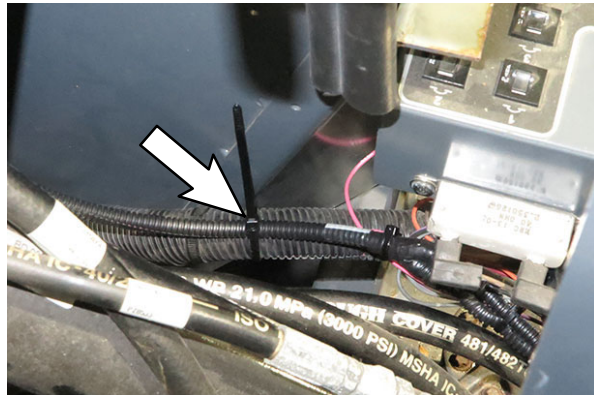

FIG. 22
57. **All Machines:** Use cable ties (16) as necessary to secure the blue spotlight harnesses (6)/(15) to the main wire harness/other nearby harnesses so neither harness can be damaged by moving parts.
Secure the blue spotlight harness (6) to the main wire harness away from the machine controls located on the above control panel. (Fig. 22)